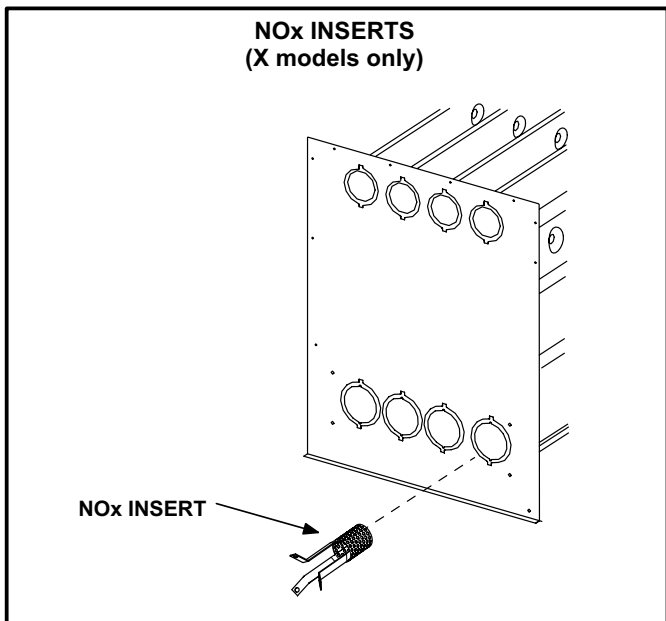

FIGURE 24
- 8 - **NOx units only** - Remove the three screws that attach the NOx insert to the corbel at the entrance to each heat exchanger section. Carefully remove the NOx insert from each section. See figure 24.
- 16- **NOx units only** - Reattach the NOx inserts to the corbels at the entrance to each heat exchanger opening. See figure 24.